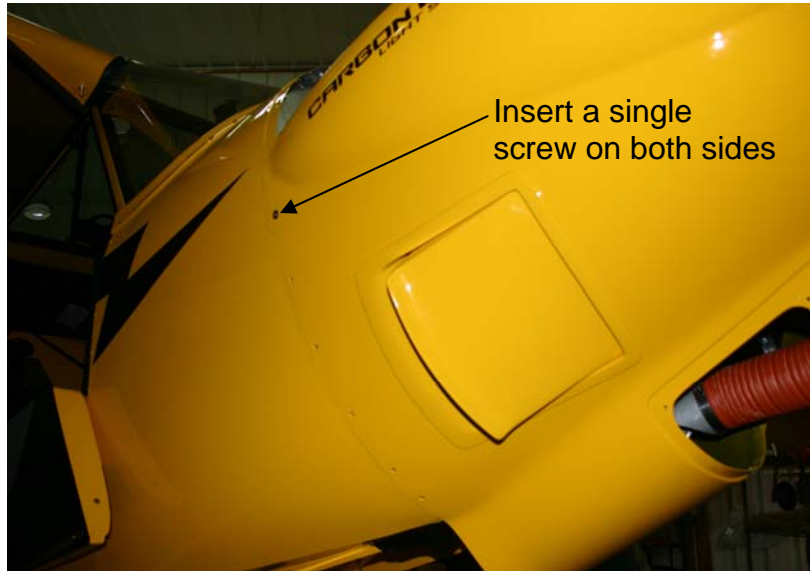

FIGURE 6 - Test Fit of the Cowling
15. Test fit the lower engine cowling using one screw in each corner to hold the cowl in place. Refer to Figure 6.